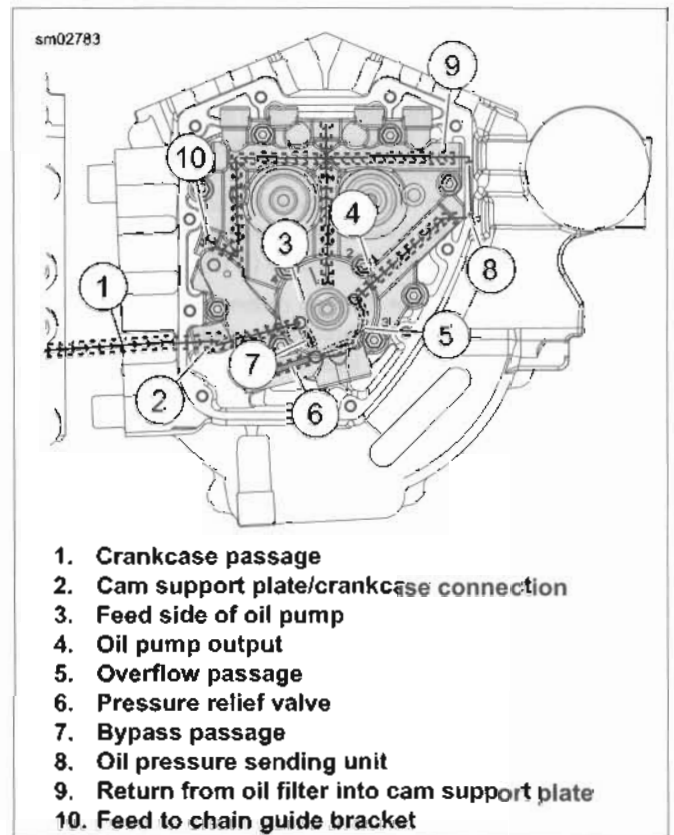

Figure 3-2. Cam Support Plate Oil Flow
See Figure 3-2. Running through a passageway in the crankcase (1), oil exits a hole in the crankcase and then enters a hole in the cam support plate (2). Passing through a channel in the cam support plate, oil enters the feed side of the oil pump (3). See 3.5 OIL PUMP OPERATION. The feed gerotors of the pump direct the flow up a second channel in the cam support plate.
See Figure 3-2. After circulating through the oil filter, oil is directed back into the crankcase through the spigot in the oil filter mount. Exiting through a passageway in the crankcase, oil reenters the cam support plate (9).